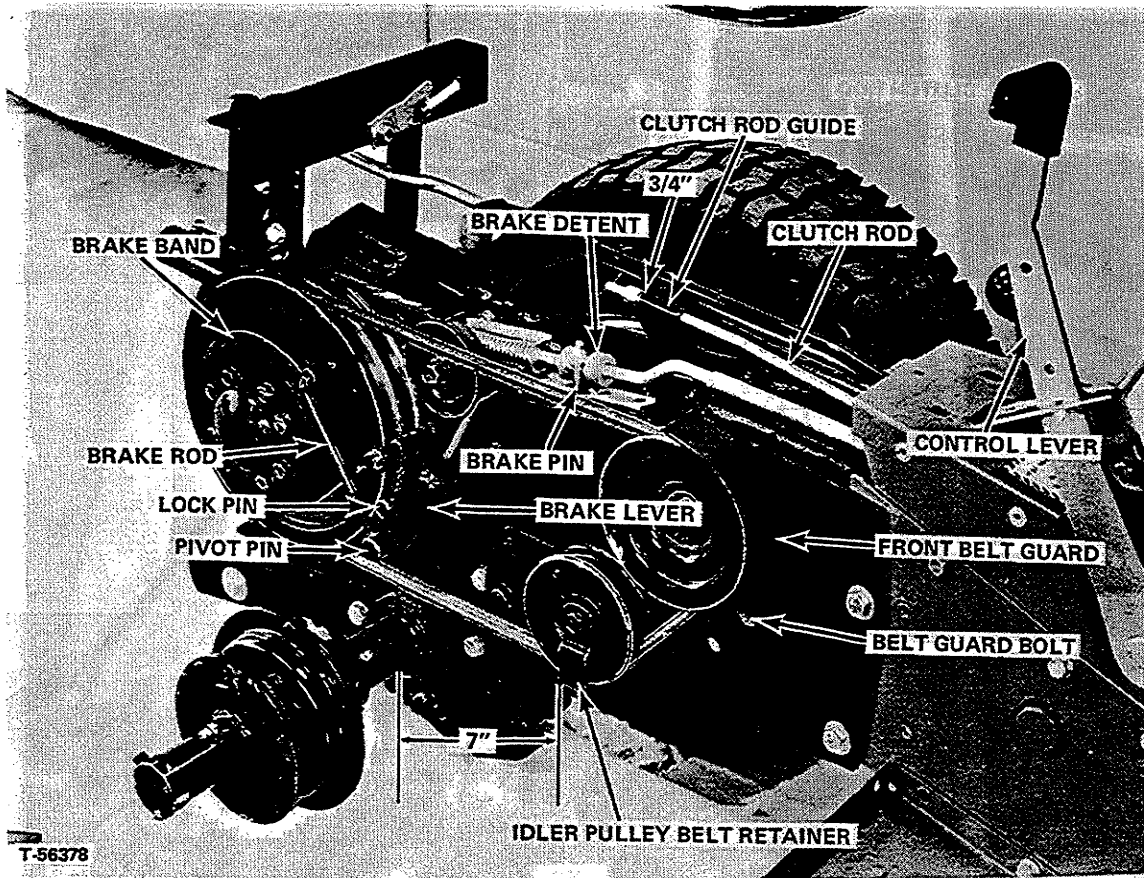

FIGURE 25
3. With clutch pedal up in engaged position adjust jam nuts on clutch rod $3/4$ inch away from clutch rod guide (Figure 25).
outside diameter of front pulley at the closest point. Be sure guard stays in proper location as belt guard bolt is tightened (Figure 25).
5. Rotate the idler pulley belt retainer around pulley until rear edge of retainer is 7 inches from front side of axle shaft as shown in Figure 25. Securely tighten bolt through pulley hub.
7. (Figure 25), with control lever in neutral position make sure center of notch in brake detent is centered on brake pin. If necessary loosen setscrew in detent, move it, and retighten setscrew.
10. See Figure 25. With control lever in neutral position rotate pivot pin on threads on brake rod so that when pin is reinstalled in hole in brake lever all of the slack will be taken out of brake band. Fasten pivot pin in place in brake lever with lock pin.